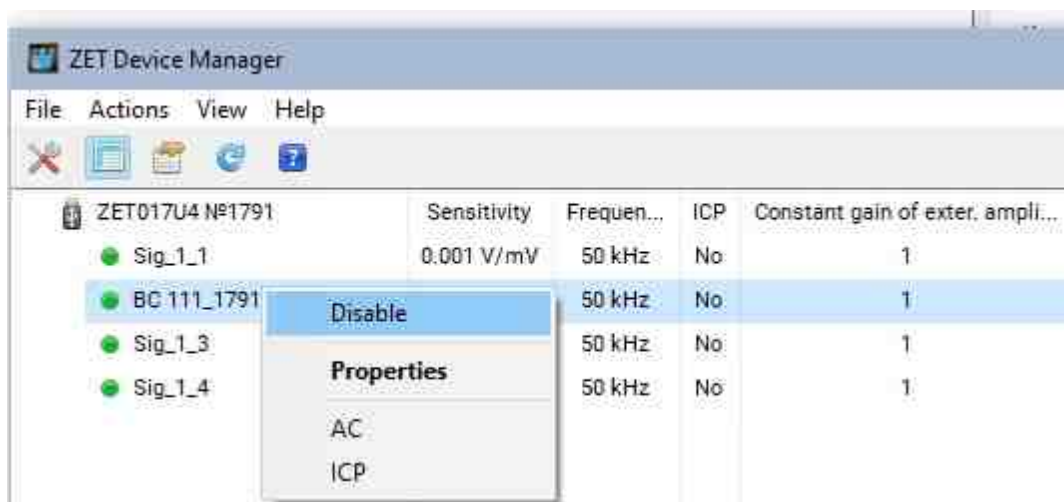

Fig. 2.9
- Switching the measuring channel on and off can also be done by checking and unchecking the box in the "Status" field of the "Property" window (Fig. 2.9)